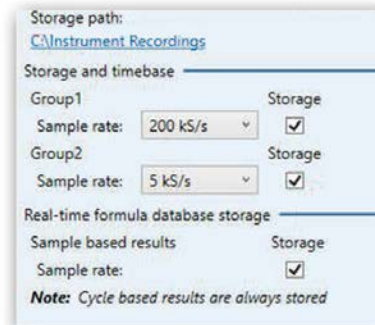

Figure 9.18: Storage and timebase
- C** Data for **Group1** is recorded at 200 kS/s and stored, for Group 2 at 5 kS/s and also stored (see Figure 9.18).